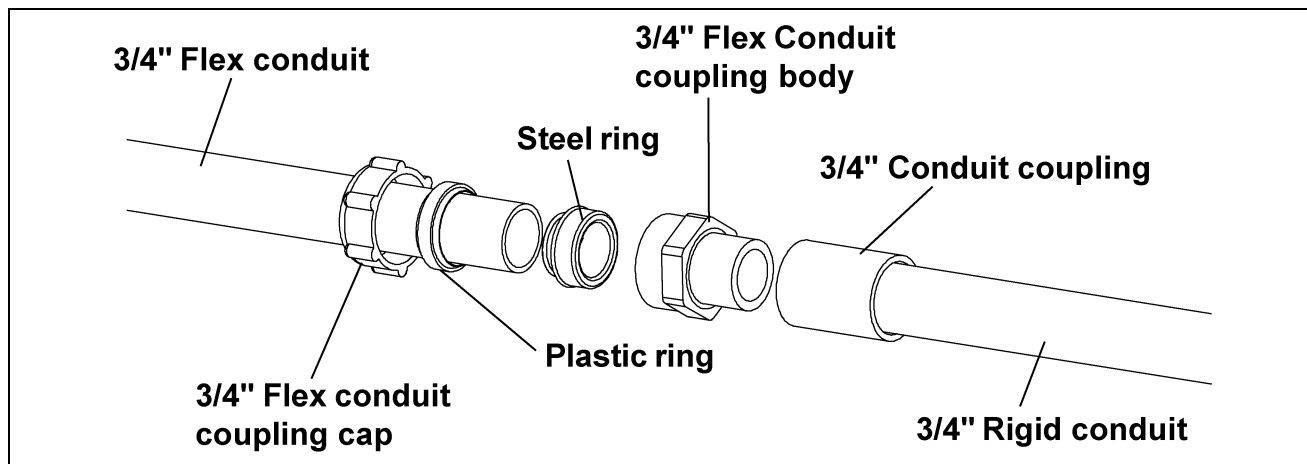

Figure 5AJ
4. Thread a steel ring into the 3/4" flex conduit. (See Figure 5AJ.)
5. Thread the 3/4" flex conduit coupling cap onto the 3/4" flex conduit coupling body. (See Figure 5AJ.)
- D. Attach the 3/4" x 12" liquid-tight flex conduit to the other end of the rigid conduit using one (1) 3/4" conduit coupling and one (1) 3/4" liquid-tight flex conduit coupling. (See Figure 5AK.)